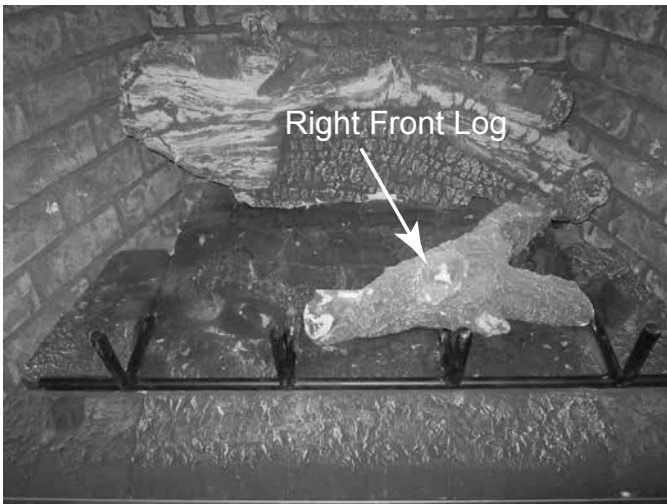

Figure 11.11
- Install right front log on the two locating pins on the burner top. See Figure 11.11